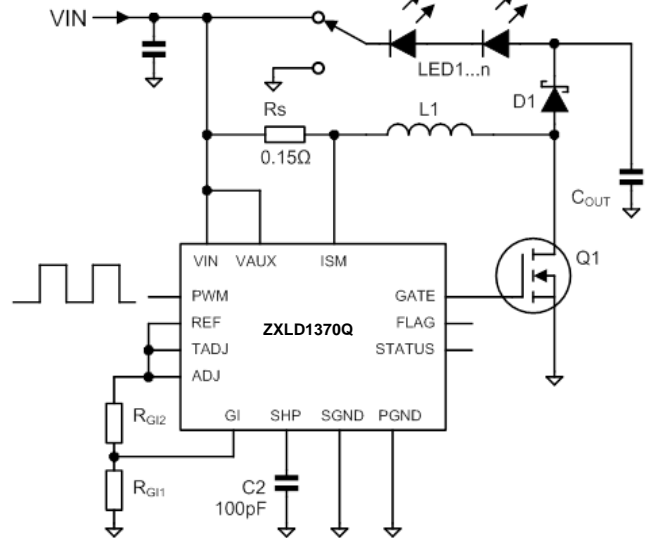

Figure 23 Boost and Buck-Boost Configuration
b) Boost and Buck-Boost Modes – the most simple boost/buck-boost circuit shown in Figure 23
The average current in the LED, I_{LED} , is always less than I_{RS} . The feedback control loop adjusts the switch duty cycle, D, to achieve a set point at the sense resistor. This controls I_{RS} . During the interval t_{OFF} , the coil current flows through D1 and the LED load. During t_{ON} , the coil current flows through Q1, not the LEDs. Therefore the set point is modified by D using a gating function to control I_{LED} indirectly. In order to compensate internally for the effect of the gating function, a control factor, GI_ADJ is used. GI_ADJ is set by a pair of external resistors, R_{G1} and R_{G2} (see Figure 23). This allows the sense voltage to be adjusted to an optimum level for power efficiency without significant error in the LED controlled current.